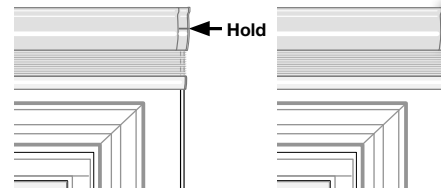

Fig. 13
- B. Press and hold the button on the headrail/motor end until the LED begins to flash red (about seven seconds) and release. The shade will jog, confirming exclusion. (Fig. 13)